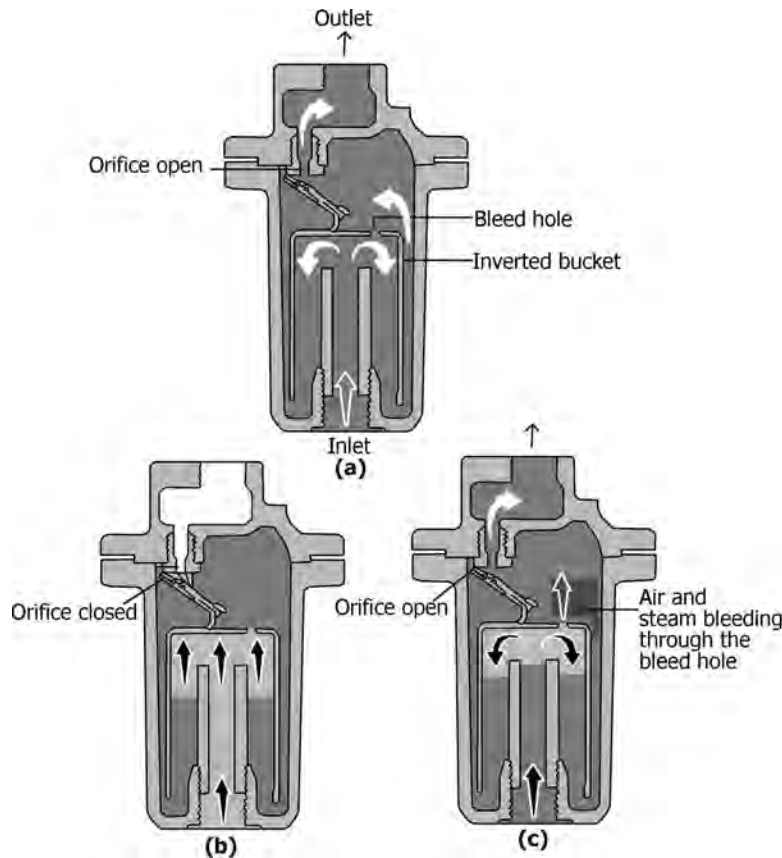

FIGURE 12.17 An inverted bucket steam trap. (Courtesy: Spirax Sarco.)
- The *inverted bucket steam trap*, shown in Figure 12.17, illustrates its method of operation. The inverted bucket is attached by a lever to a valve. It has a small air vent hole in the top of the bucket.